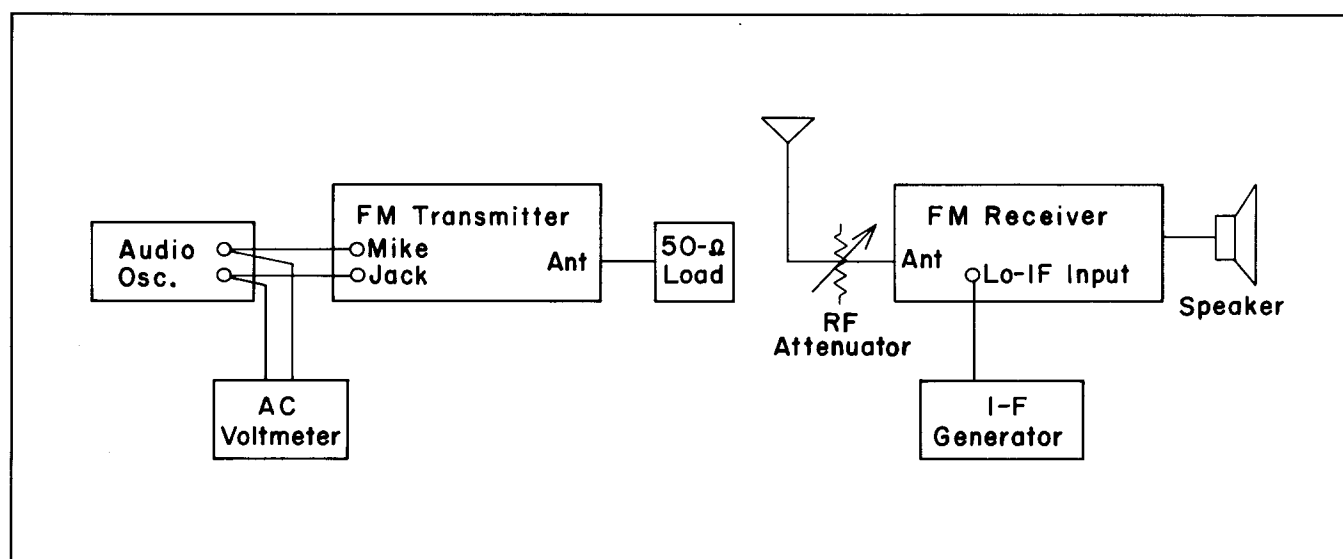

Figure 4 - Test Setup for Adjusting FM Transmitter Deviation
1. Test Setup: Connect the test equipment as shown in Figure 4. Set the output frequency of the I-F generator at the Lo-IF frequency of the receiver (455 kHz for MASTR or Porta-Mobil, 290 kHz for Progress Line to TPL). If I-F Generator EX-7-A is used, set the LEVEL control to mid-position. Set the modulation adjustment and the audio oscillator output to zero.
3. Audio Oscillator Adjustment: Accurately adjust the audio oscillator for the desired frequency, determined from Table 1 or 2 or from formula (2). Adjust the signal level so that it does not produce limiting in the transmitter (10 to 100 millivolts RMS for GE transmitters which use variable reluctance microphones).